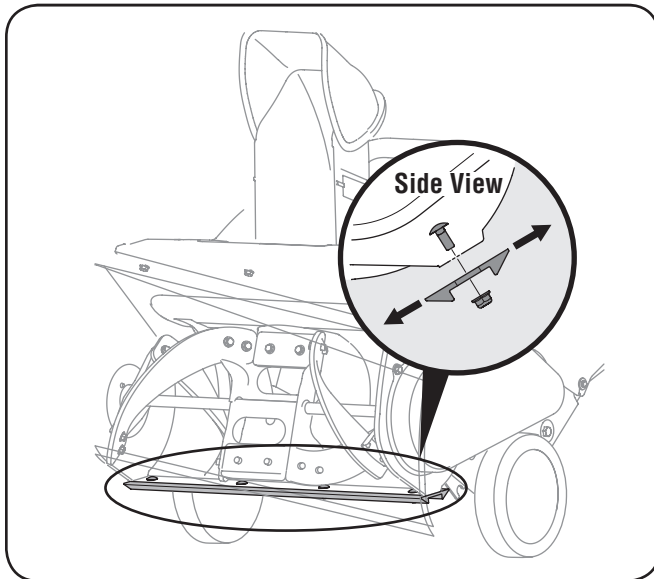

Figure 6-1
2. To adjust, tip the snow thrower back so that it rests on the handle. Loosen the four lock nuts and bolts which secure the shave plate to the housing. See Fig. 6-1. Move the shave plate to desired position and retighten the nuts and bolts securely.
3. Adjust the shave plate as instructed on page 11. Refer to Fig. 6-1.